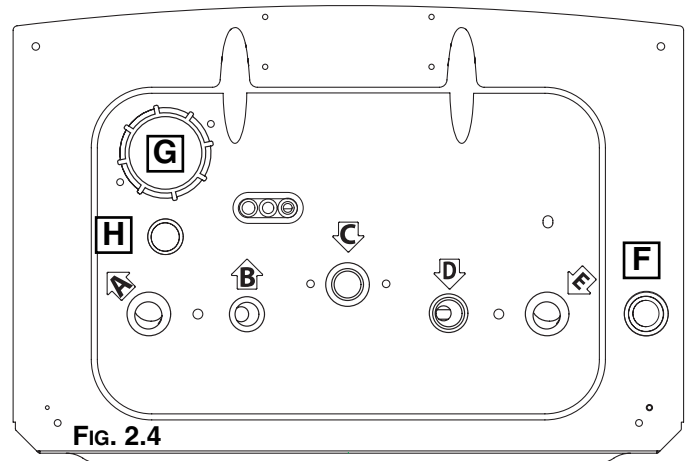

FIG. 2.4
2.5.2. Position the appliance on the hanging bracket and connect the connection kit to the boiler connections. (see also Sections 2.7 Gas Connections, 2.8 Water Connections & Fig. 2.4).
A flexible hose is supplied for connection to the condensate discharge point H (Fig. 2.4). The condensate discharge hose from the boiler must have a continuous fall of 2.5° and must be inserted by at least 50 mm into a suitable acid resistant tundish / pipe - e.g. plastic waste or overflow pipe. The condensate discharge pipe must have a continuous fall and preferably be installed and terminated within the building to prevent freezing.